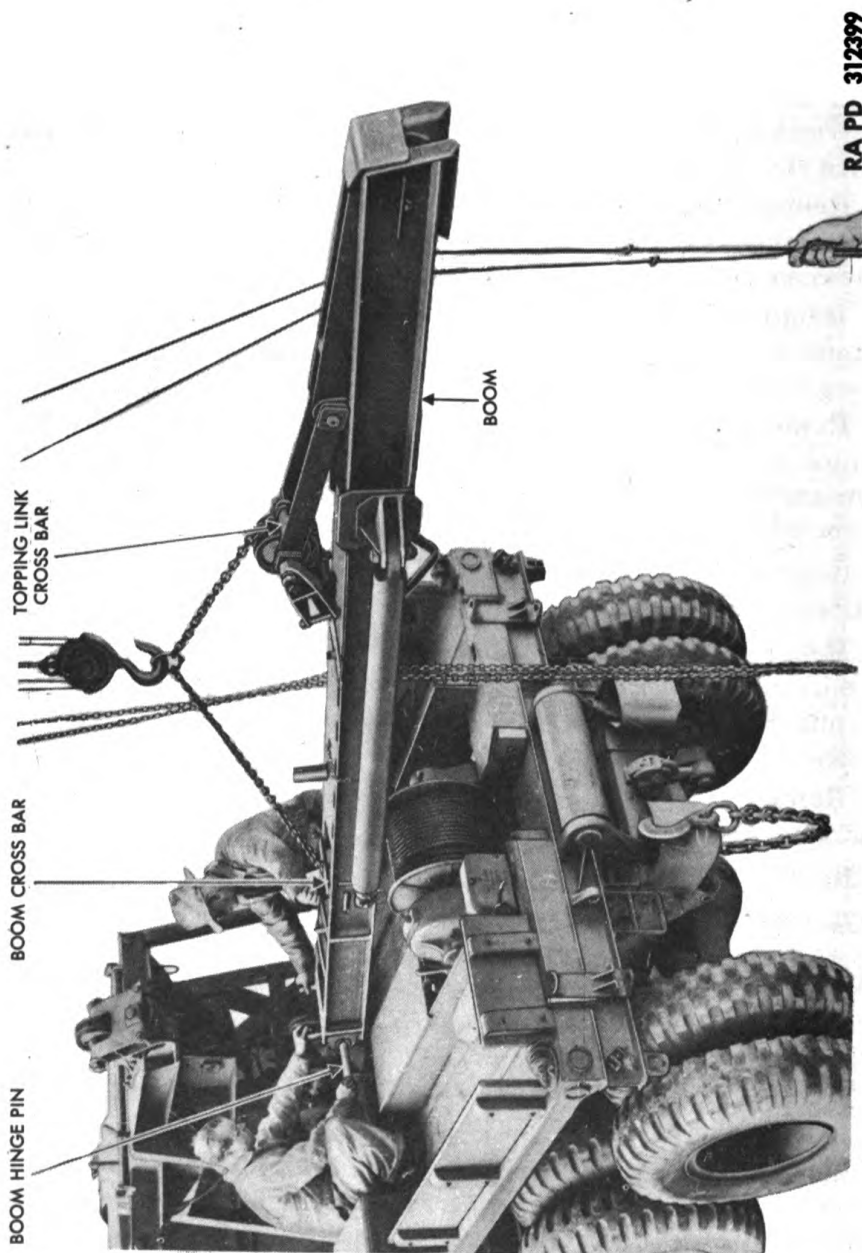

Figure 4 — Removing Boom
a. Locate Lifting Chain on Boom. Using a chain fall and an 84-inch chain with a hook on each end, hook into the cross bars on the topping link and boom proper. Position the hook of the chain fall 34 inches from the topping link end and 5 feet from the boom end (fig. 4). *NOTE: This positioning will balance the boom for a safe and easy removal.*
b. Remove Boom. The boom is anchored to the boom pivot by means of a $1\frac{1}{2}$ -inch bolt. Remove cotter pin and castellated nut, and drive the hinge pin to the left of the vehicle to remove (fig. 4). The hinge pin bushings may come out of the boom when the pin is removed (fig. 19). Raise the boom clear of the boom pivot and remove from vehicle.